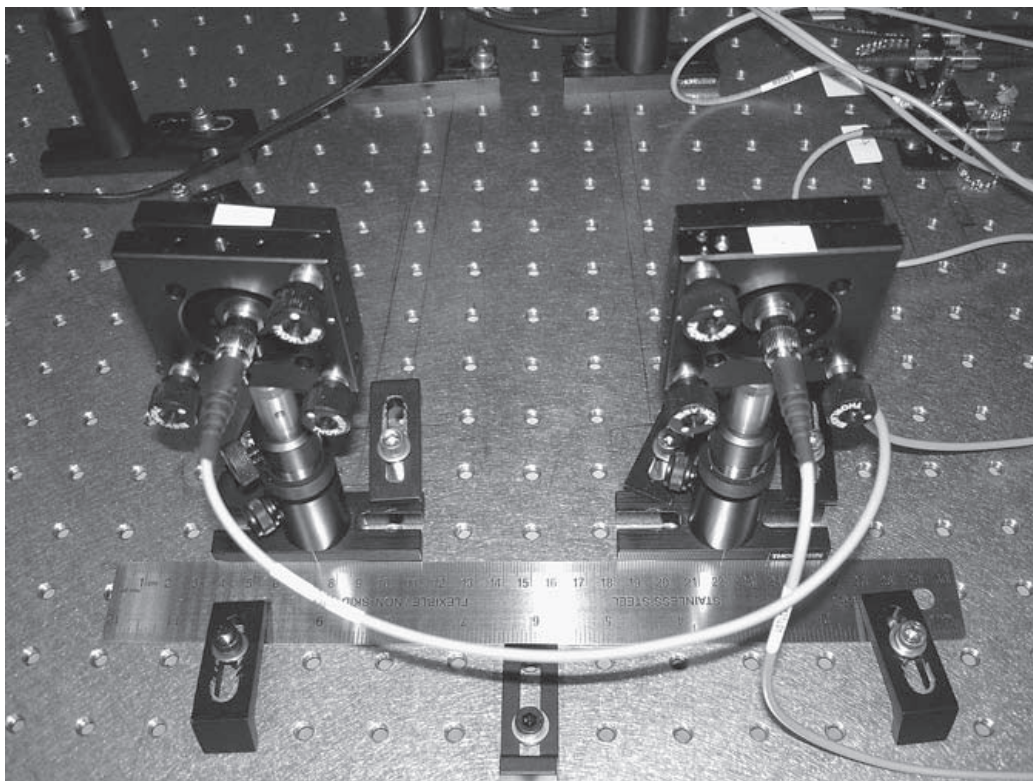

Fig L1.3 The fiber-coupling mounts.
We speak of aligning detector-A (for example), but really we mean aligning the lens and optical fiber that deliver the downconverted light to the detector. Figure L1.3 shows the mounts, lenses, and fibers of the signal and idler light collection optics. The bases which hold the mounts slide along a ruler, which is fastened to the table. This allows reasonably precise translation of the mounts, in order to position them at the correct angles to detect the downconverted photons.
- Place the detector-**A** mount so that it makes an angle of approximately 3° from the pump laser, and that its base is pushed up against the ruler (as shown in fig. L1.3).
- Place the detector-**B** mount so that the base pushes the up against the ruler, as shown in fig. L1.3. Begin by locating detector-**B** so that it makes roughly the same angle from the pump beam as detector-**A**.